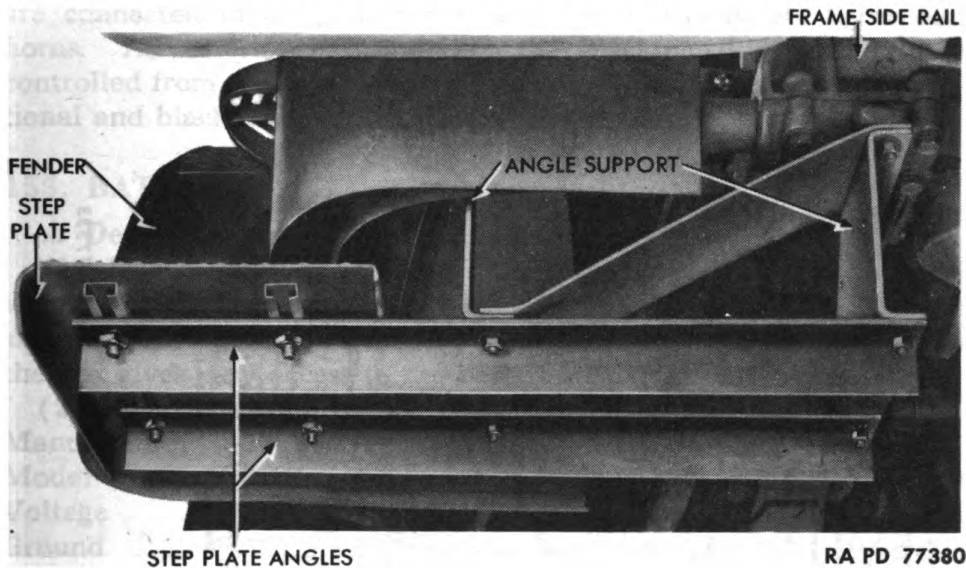

Figure 104 — Step Plate Installed
a. **Description** (fig. 104). Step plates, one on each side of vehicle, are positioned behind lower edge of front fenders. They serve as an aid to entering or leaving cab. Each plate is supported by an angle support assembly attached to frame side rails.
c. **Removal** (fig. 104). Disconnect step plates and step plate angles by removing four nuts, toothed lock washers, and bolts that secure each to angle supports. Remove plates and angles.
d. **Installation** (fig. 104). Position step plates and step plate angles to angle supports. Install four bolts, toothed lock washers, and nuts which secure each to angle supports.